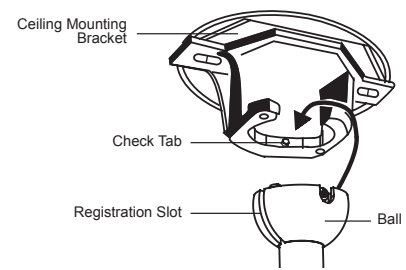

Fig. 9
Step 9. Lift the motor assembly into position and place the ball into the ceiling mounting bracket. Rotate the entire assembly until the "Check Tab" has dropped into the "Registration Slot" and seats firmly. (Fig. 9)